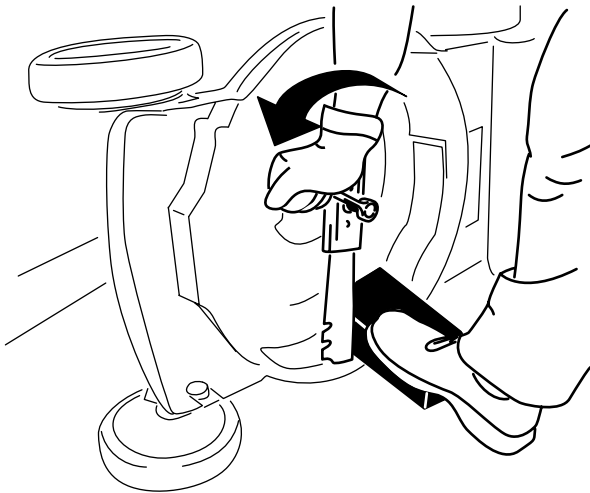

Figure 20
3. Use a block of wood to hold the blade steady (Figure 20).
4. Remove the blade, saving all mounting hardware (Figure 20).